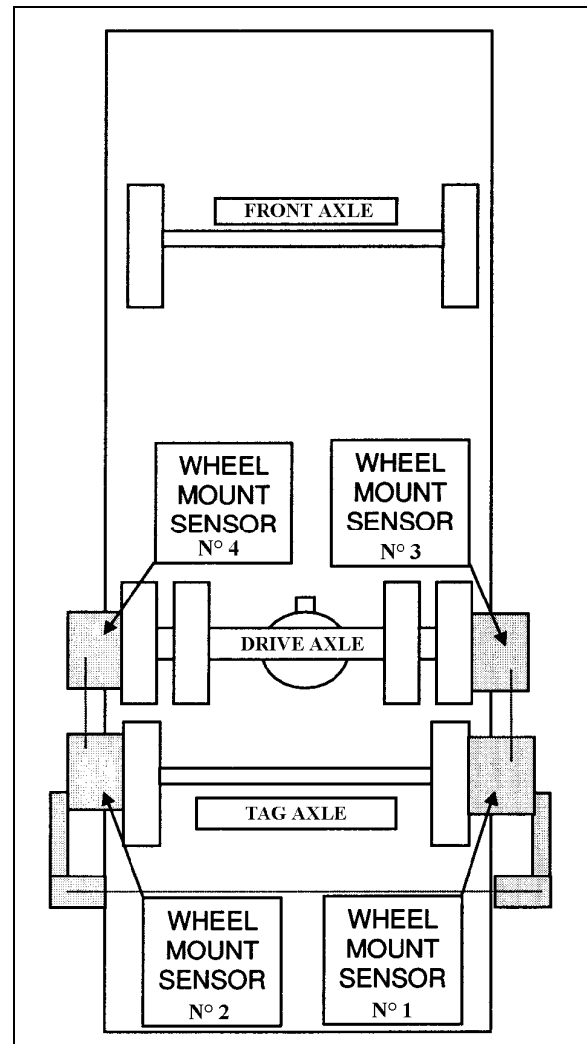

FIGURE 8: TAG AXLE ALIGNMENT 11026
- Remove and reinstall all wheel mount sensors on the drive and tag axes (fig. 8);
Reinstall wheel mount sensors as shown in figure 8. For example, the sensor from the right side of the front axle is mounted on the left side of the tag axle.